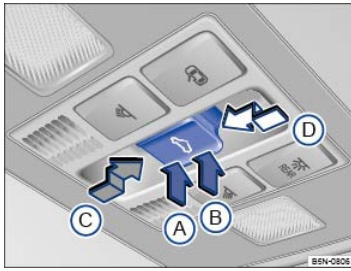

Fig. 38 In the headliner: Power sunroof switch.
The switch ⇒ Fig. 38 has 2 detents for each switch position (A, B, C, and D), which are described in the following table.
Function	Action ⇒ Fig. 38
- Press the button ⇒ Fig. 38 within about 5 seconds after the sunroof has stopped and hold it in the direction of the arrow at the second detent until the power sunroof closes completely.